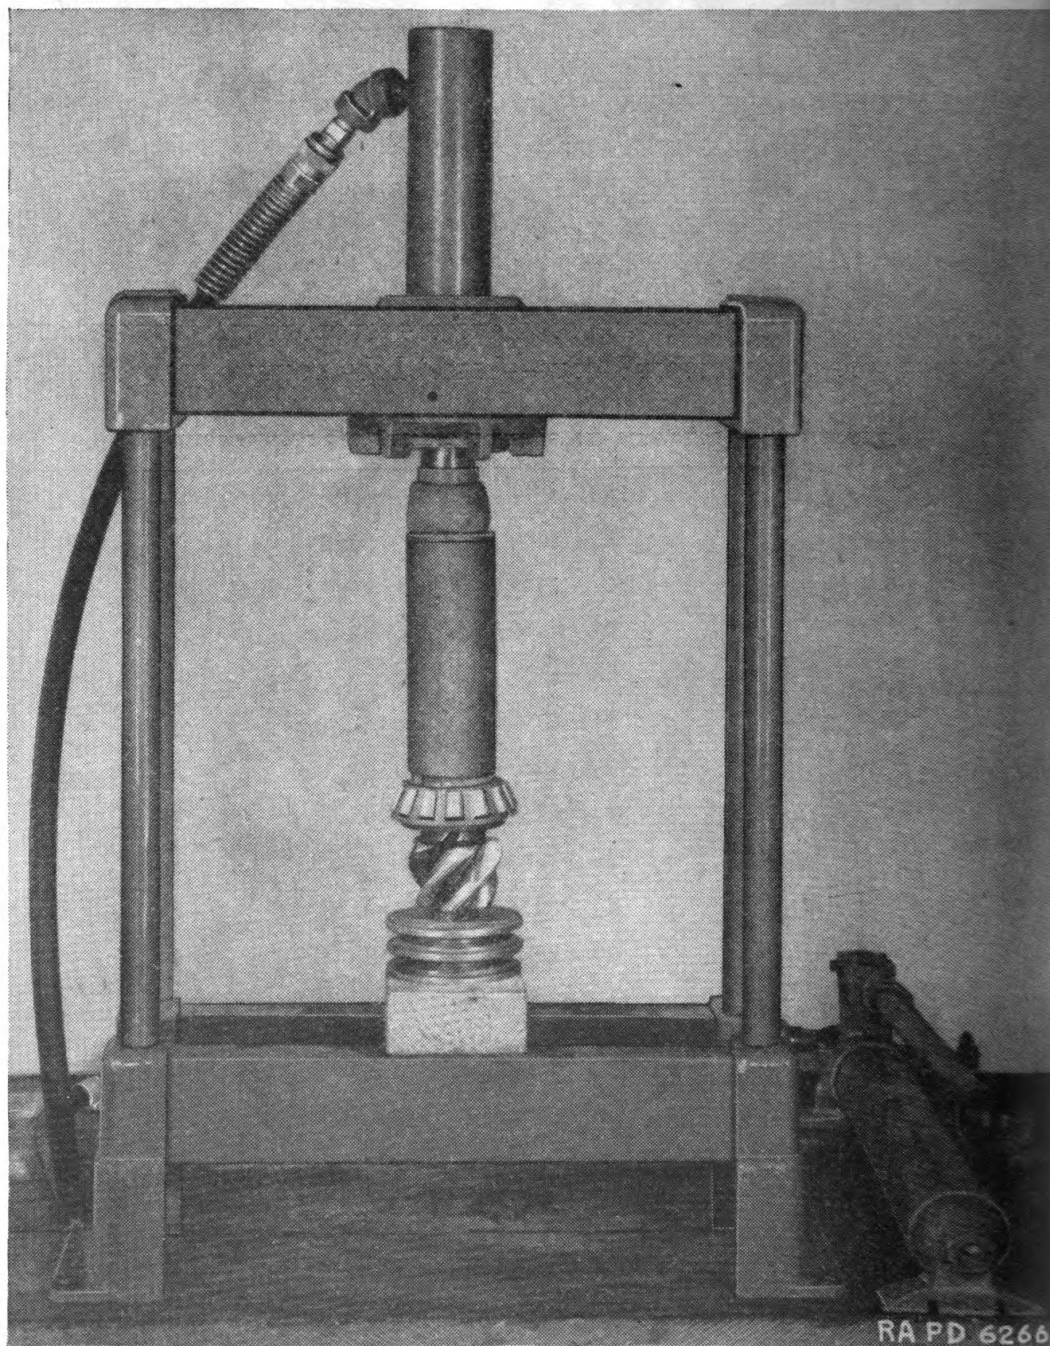

FIGURE 40.—Front axle drive pinion inner bearing cone replacement.
(1) Insert oil seal—press, wood block. Press seal into retainer, making sure cup is straight.
(2) Replace inner bearing cone—press, pipe collar, steel plate. Dip bearing in lubricant and press onto shaft (fig. 40).